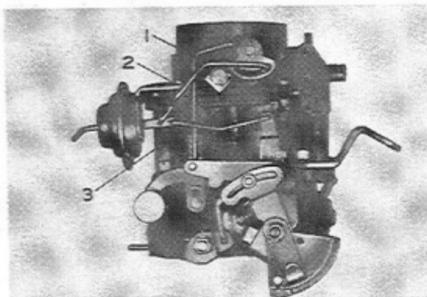

Fig. 5-64 Removing Links 01903
2. Loosen and remove the choke wire clamp securing screw (6), and remove the choke wire clamp (4), magnetic valve (2) and gasket from the air-horn.
3. Remove the snap ring of the connecting link (2), connector (3) and 1st idle connector (1) from the carburetor. (Fig. 5.64)